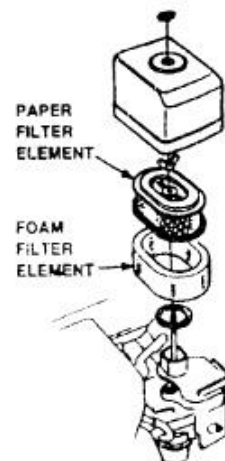

Figure 1 Air Filter
2. To clean or replace air filter loosen the wing nut on the air filter housing (Figure 1), remove the cover and take out air filter cartridge. If only cleaning of the air filter is desired blow through the air filter cartridge from the inside, moving a jet of dry compressed air up and down until all dust is removed.